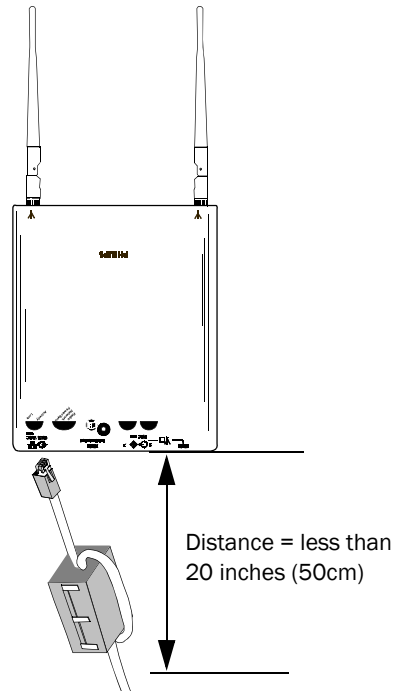

Figure 2-2: Installing a Ferrite Block on the UTP Cable to the IntelliVue Smart-hopping Infrastructure
6. Install a ferrite block on the RJ-45 cable within 20 inches (50 cm) of the RJ-45 connector that connects to the Core Access Point as shown in Figure 2-2.